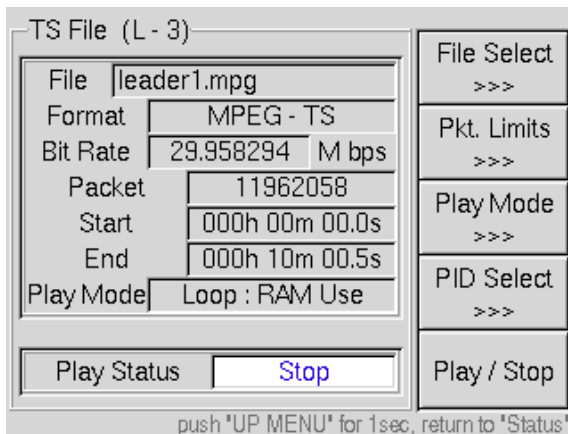
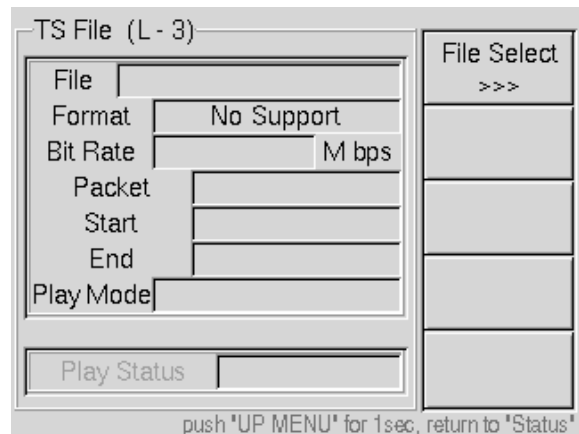

Figure 10-8 TS file screen
Figure 10-9 TS file screen (No Support)
- (1) Display the TS File screen (Figure 10-8), then press the F1 (File Select) key to enter the TS File Select.
- (2) The folder list is displayed on the upper part of the screen. The file list in the folder is displayed on the lower part of the screen. First, there is a highlight in the folder.
- (3) Specify the folder containing the file to be played back by pressing the ↑ or ↓ key, and F4 (Folder Change) key.
- (4) After the folder is moved, press the F5 (Folder/File Select) key to highlight the file list.
- (5) Specify the file to be played back by pressing the ↑ or ↓ key, then press the F3 (Apply) key. The specified file will be analyzed.
- (6) If the file is not in TS format, or TS is not supported by this instrument, the Format column displays “No Support” as shown in Figure 10-9 and playback operation cannot be performed. Functions other than the file selection (e.g., playback, specifying range) are disabled.
- (7) For the TS that can be played back, TS information is displayed on the TS File screen (figure 10-8) after data is analyzed. The functions described in Section 10.3.1 are assigned to the F keys to enable the playback operation.